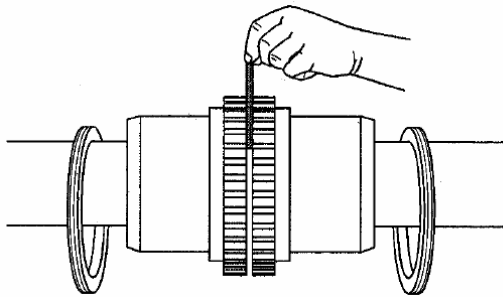

FIGURE 10C – USING SPACER BAR
8. Use a spacer bar equal in thickness to the gap specified in Figure 10C. Insert bar, as shown below, to same depth at 90° intervals and measure clearance between bar and hub face with feeler gauges. The difference in minimum and maximum measurements must not exceed the angular installation limits shown in Figure 10H.